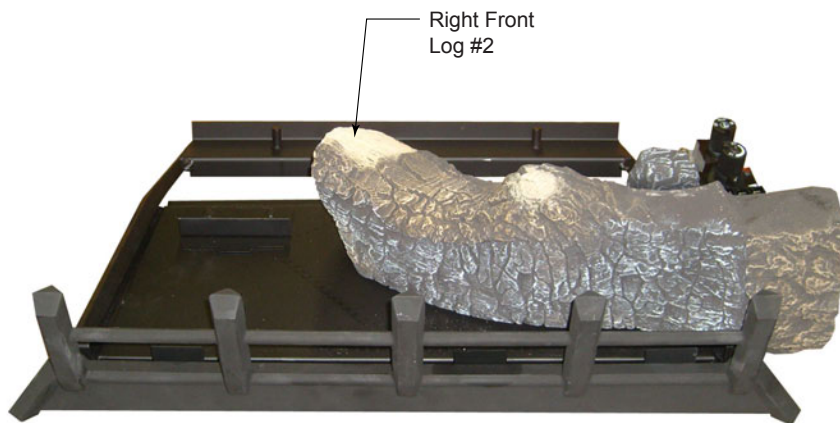

Figure 21
2. Place front right log (#2) on right pin located on burner and right grate bar. *Figure 21*. After placing front right log, ensure log is fully upright and tilting towards the back of the burner.